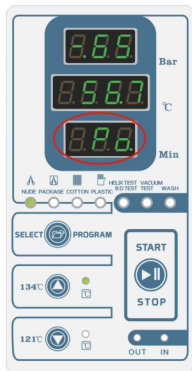

Fig.5.4-3
(3) **First times Heating stage:** when the vacuum value reach Pv value, the steam generator start inject the steam into chamber, temperature display window show high temperature and up. pressure the steam into chamber, temperature display window show high temperature and up. pressure display window show high pressure and up. operation display window show “Po”. (Fig.5.4-3)
(6)**Second times Heating stage:** When the vacuum value reaches -0.70bar value,the control system will open water pump solenoid valve(Ev2) and steam generator start inject the steam into chamber,temperature display window show high temperature and up.pressure display window show high pressure and up.operation display window show “Po” .(Fig.5.4-3)
(9)**third times Heating stage:** When the vacuum value reaches -0.70bar value,the control system will open water pump solenoid valve(Ev2) and steam generator start inject the steam into chamber,temperature display window show high temperature and up.pressure display window show high pressure and up.operation display window show “Po” .when temperature in chamber up to 134℃(134℃ sterilization program) or 121℃(121℃ sterilization program),start sterilization.(Fig.5.4-3)